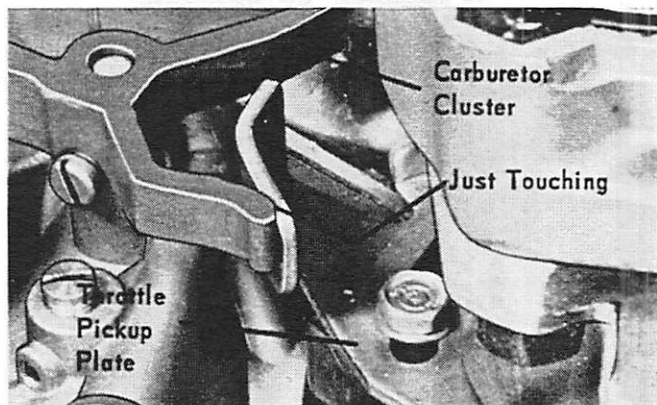

Figure 5. First Throttle Pickup Tab Adjustment
12. Loosen throttle pickup plate screws. (Figure 5)
13. Slide throttle pickup plate so that first throttle tab (without nylon sleeve) just touches carburetor cluster. (Figure 5)